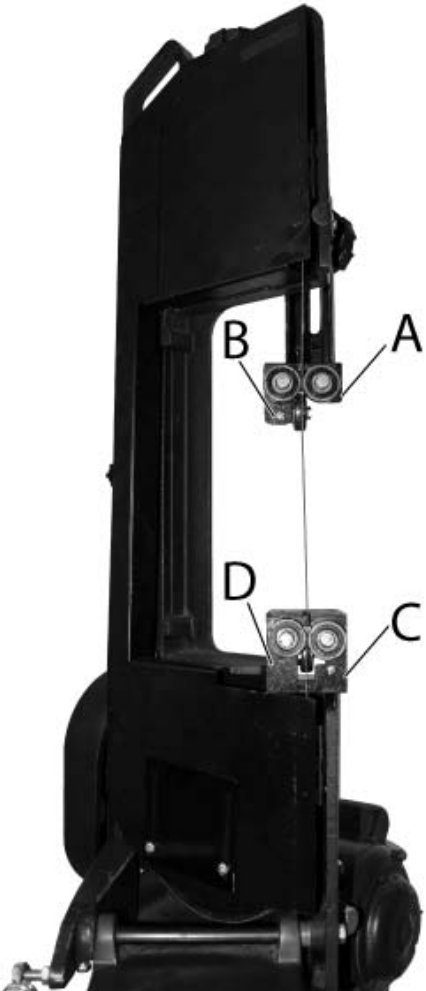

Figure11
1. Assemble the blade safe plate (A) to the blade guard (B) using the screws supplied. (see Fig.11)
2. Assemble the blade safe plate (C) to the blade guard (D) using the screws supplied. (see Fig.11)